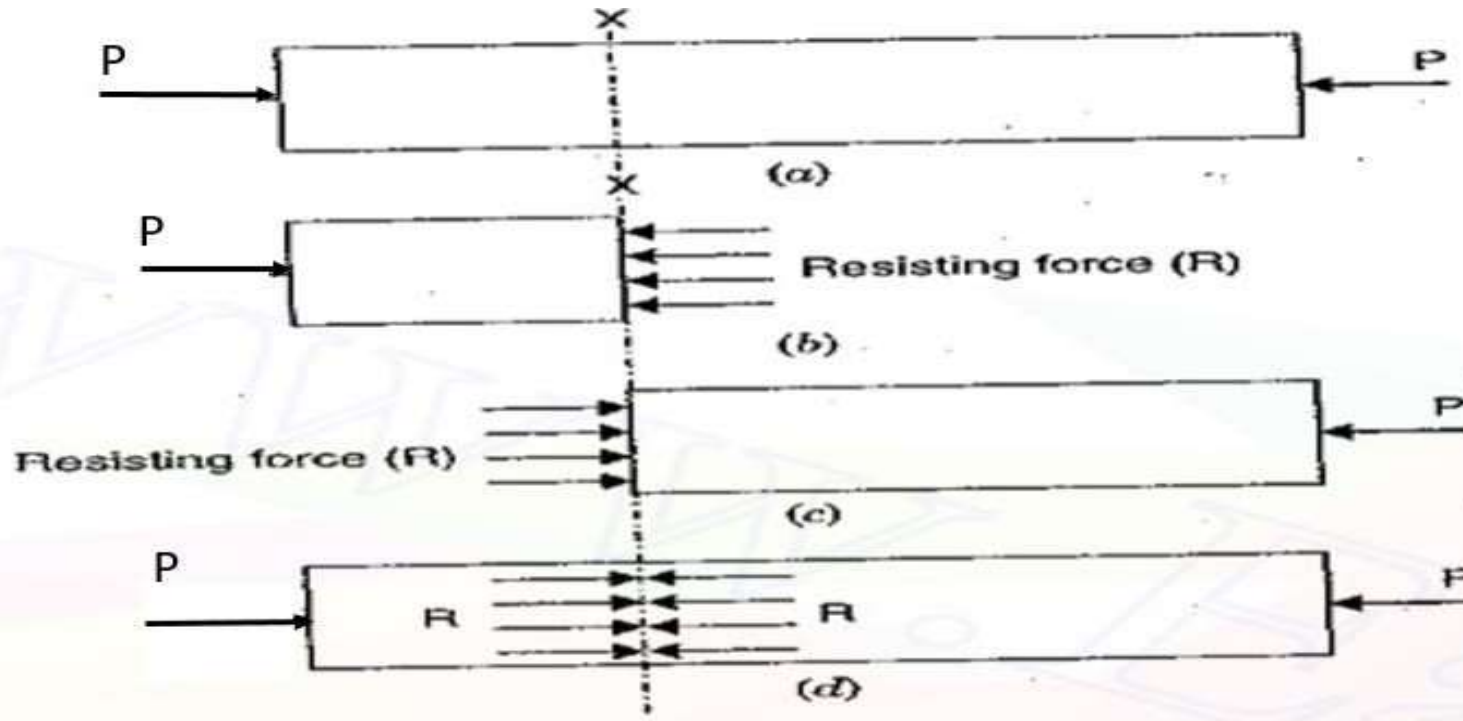

Fig. 1.2
1.4.2. Compressive Stress. The stress induced in a body, when subjected to two equal and opposite pushes as shown in Fig. 1.2 (a) as a result of which there is a decrease in length of the body, is known as compressive stress. And the ratio of decrease in length to the original length is known as *compressive strain*. The compressive stress acts normal to the area and it pushes on the area.